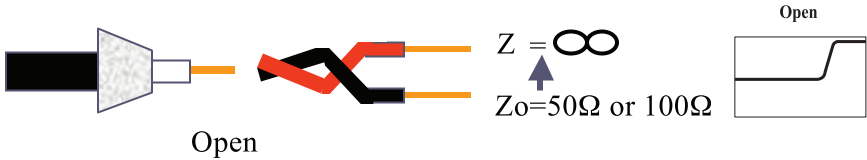

Figure 2-2
The impedance measured along the length of a good cable is known as the characteristic impedance (Z_0) and is designed in at the time of manufacture. When measuring with a TDR, the readings displayed are the actual impedance (Z) at each data point along the cable. When a cable is good, you will see impedance readings that are near or equal to Z_0 . When a fault occurs the impedance deviates from Z_0 . Figures 2-2 and 2-3 show the effect of an open or short has on the cable's impedance. A Step TDR's trace will react per the display on the right. The reading will change from the horizontal normal impedance reading to either the maximum Ohms for an open or down to 0 Ohms for a short.